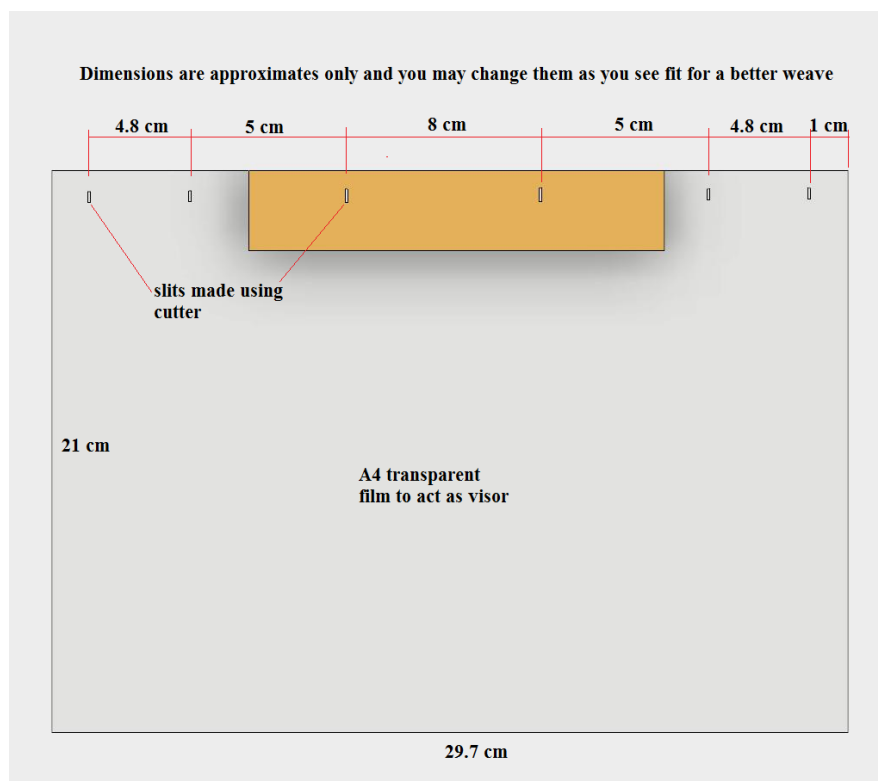

Figure 1 Approximate location of slits
Step 2 – Mark the transparent film and poly foam. The marks are where you will slit the transparent film and the foam to insert the elastic strap. Once marked use a cutter to slit the locations as shown in Figure 1 below. You may approximate the distance of the slits from the top of the film. We recommend using a 1.5 cm gap. The A4 film has to have slit exactly where the foam is slit to pass the strap through.